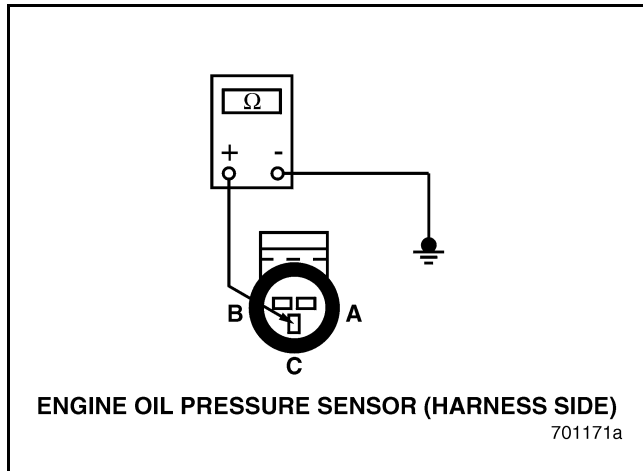

Figure 27
3. Check for continuity between Engine Oil Pressure (EOP) Sensor harness connector pin C (signal line) and a good ground (see Figure 27).